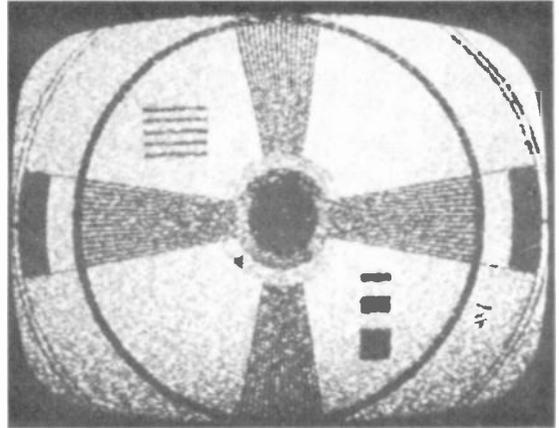

FIGURE 19-7 SNOWY PICTURE, CAUSED BY WEAK ANTENNA SIGNAL.
**Snow in the picture.** See Fig. 19-7. Usually, the snow is a result of not having enough antenna signal. There may be trouble in the rf amplifier section, or the transmission line from the antenna may be open. A helpful check here is the fact that with an open line the picture is usually better on some channels when only one side of the transmission line is connected.